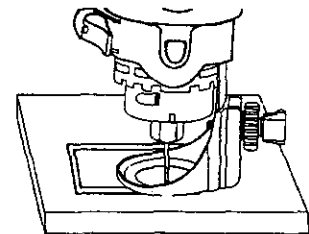

Fig. 7
8. When the motor is up to full speed, slowly tip the tool to an upright position, letting the bit cut into the workpiece (see Fig. 7). Once the tool has reached the upright position and the bit has cut through the workpiece, slowly move the tool in a clockwise direction using slow steady pressure to make the cut. NOTE: Except for cutting around outlet boxes in drywall, always cut in a clockwise direction.